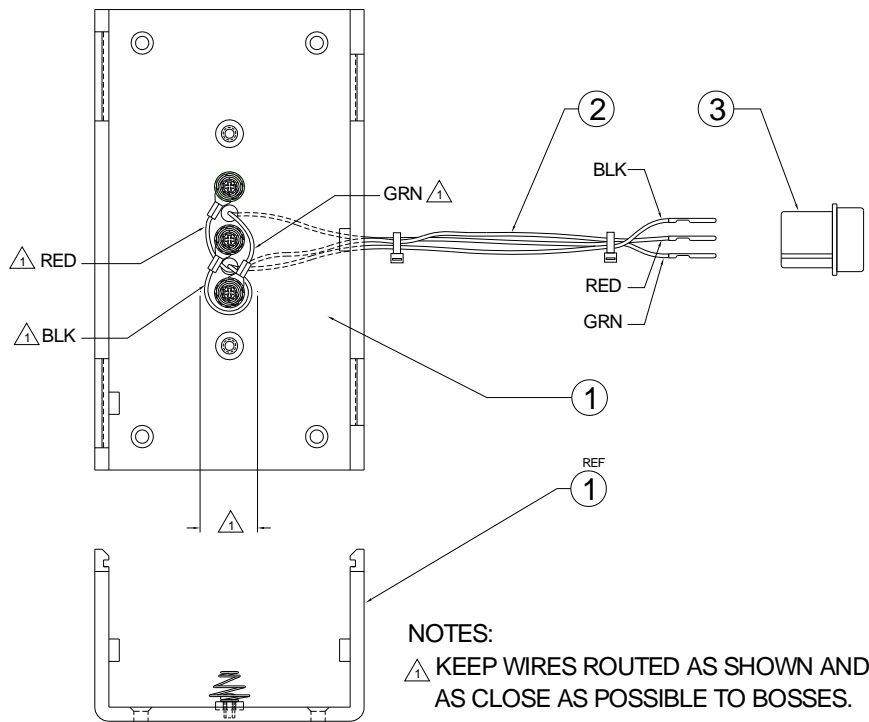

FIGURE 4
1. Mount battery pack base (Item 1, Figure 4) on test set panel with the 4 (each), 6-32 x ½ L flat head screws and 4 (each) 6-32 self-locking nuts provided.